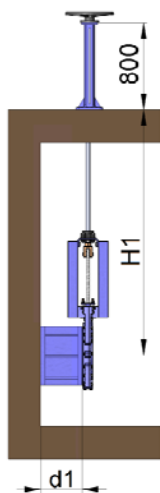

fig. 10
- The standard floor stand is 800 mm high (fig. 10). Other floor stand measurements are available to order.